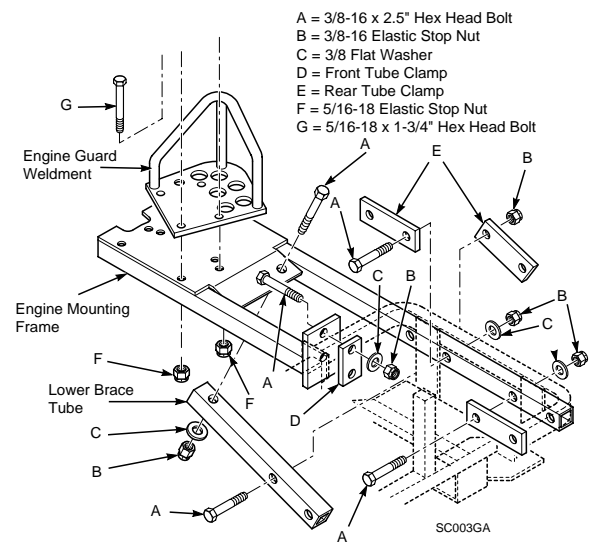

Figure 5
- Install the engine mounting frame (P/N 45561) to the tractor. See Figure 5, page 4.
- With the frame in place on the rear of the chassis, mount the front tube of the frame using two (2) 3/8-16 x 2.5" hex head bolts (A), flat washers (C), elastic stop nuts (B), and front tube clamp (D). Do not tighten fully until the remainder of the mounting hardware is in place.